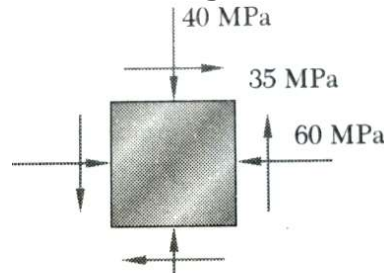

Fig.3
4. For the state of plane stress shown in Fig 3. Determine (i) the principal planes (ii) the principal stresses (iii) the maximum shearing stress and corresponding normal stress.